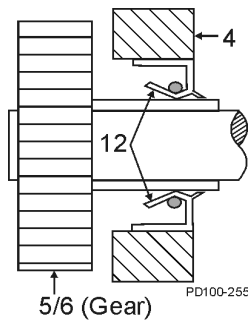

Figure 63 - Orientation of Oil Seal
2. Press the new oil seal (Figure 63, item 12) into the gear case cover (item 4) flush with the outside face, with the spring facing in.